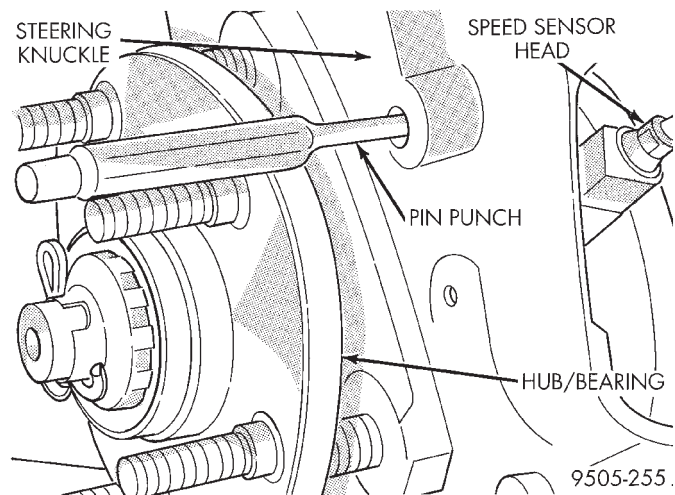

Fig. 34 Speed Sensor Head Removal From Steering Knuckle
(6) If speed sensor head can not be removed from steering knuckle by hand, the locating pin on the speed sensor head has seized to the steering knuckle do to corrosion. Remove speed sensor head from steering knuckle using the following procedure. Remove disc brake caliper from steering knuckle, and remove brake rotor from hub/bearing assembly. Then insert a pin punch through hole in front steering knuckle (Fig. 34) and tap speed sensor head locating pin out of steering knuckle.